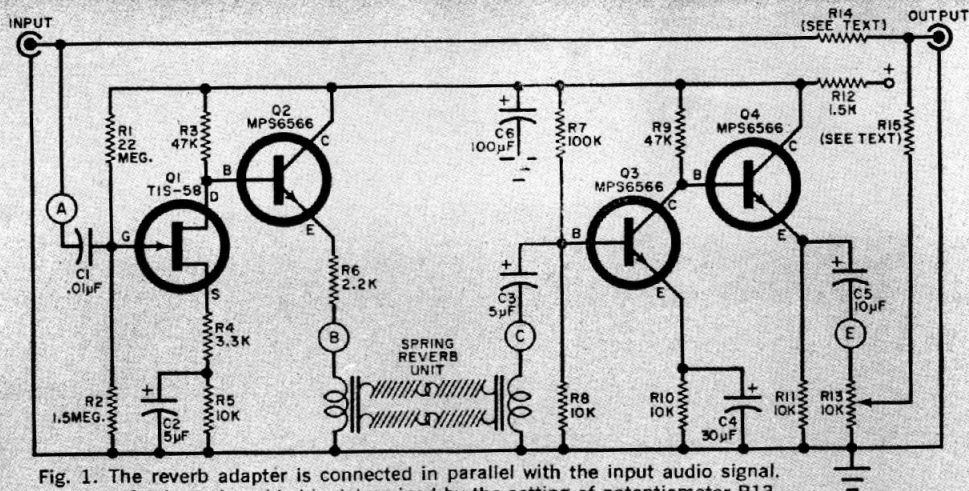

Fig. 1. The reverb adapter is connected in parallel with the input audio signal. Amount of echo to be added is determined by the setting of potentiometer R13.
**Construction.** Putting the reverb adapter (Fig. 1) together is simplified by using the printed-circuit board shown actual size in Fig. 2. Install the components on the PC board in accordance with Fig. 3. The usual PC board construction techniques should be observed—all parts should be mounted close to the board; use rosin-core solder, do not overheat when soldering, and do not form solder bridges across the foil sections. Clip all component leads close to the solder.
while the four phono jacks are mounted along the rear apron. Connect short pieces of insulated wire between points A, B, C, and E of the PC board and their respective phono jacks (see Fig. 1).
either the "Brute 70" or "L'il Tiger." The value of  $R12$  shown in Fig. 1 is correct for use with power supplies between 40 and 50 volts. For higher voltage sources, such as are found in vacuum-tube equipment, the value of  $R12$  will have to be increased to a value that delivers the approximately 30 volts required by the reverb adapter, as shown in Fig. 6.
Fig. 1. In an automobile installation, reverberation is achieved by delaying and "reverb'ing" the sound from the rear seat speaker. The delay of sound fools the ear into believing the sound is in a large concert hall.